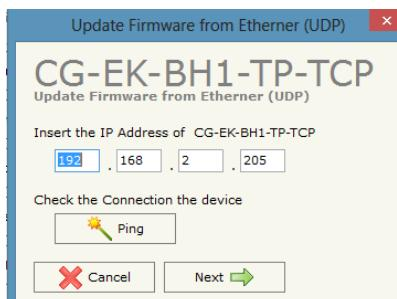

Figure 12 - Update configuration form
- Write the IP address **192.168.2.205** inside the Update Configuration form (see Figure 12 – Update configuration form)
- Provide the device IP address (see Figure 12 – Update configuration form). Make sure that the PC's network parameters are consistent with the IP address assigned to the device. Otherwise, change the PC's network settings
- Press *Ping* button; if you correctly applied the procedure, the text “*Device found!*” will appear (see Figure 12 – Update configuration form)
- Press *Next* button (see Figure 12 – Update configuration form)
In case of manual firmware update, replace “Sim67814.sim” file in the system folder “C:\Program Files (x86)\Ekinex\Compositor(CG-EK-BH1-TP-TCP\Master”. After replacing, open *Update configurazione* form (see Figure 12 – Update configuration form) in the application program and start the proper sequence.